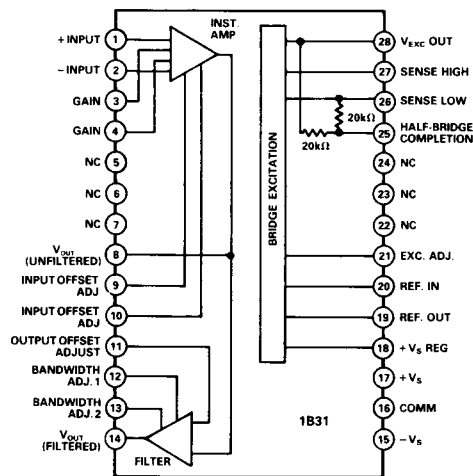

Figure 1. Block Diagram and Pinout
Model 1B31 is based on a two-stage amplifier design and an adjustable voltage regulator section, as shown in Figure 1. The front end is a low noise, low drift, instrumentation amplifier (IA) that is optimized to amplify low level transducer signals (from 2mV full scale) riding on high common-mode voltage (± 9.5V). The gain of the IA is programmed by a single resistor (1V/V to 2500V/V) and the input offset nullled out by an external potentiometer across the offset adjust Pins 9 and 10. The inverted signal ($V_{-INPUT} - V_{+INPUT}$) is brought out to Pin 8 for applications such as vibration and torque testing where the unfiltered output is required.